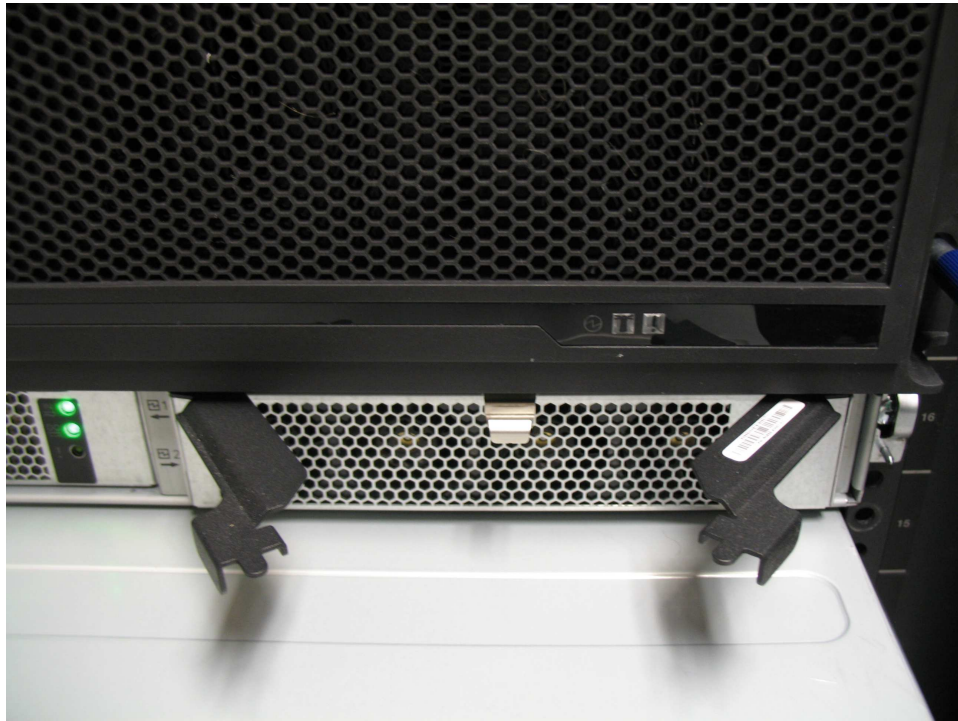

Figure 86. Releasing the power supply handles
Each PSU provides cooling to the lower part of the enclosure. Ensure that the second PSU in the enclosure is powered on and operating correctly. For example, in Figure 86 on page 106, PSU 1 is operating while PSU 2 is being removed.
4. Rotate the handles outward, as shown in Figure 86 on page 106.